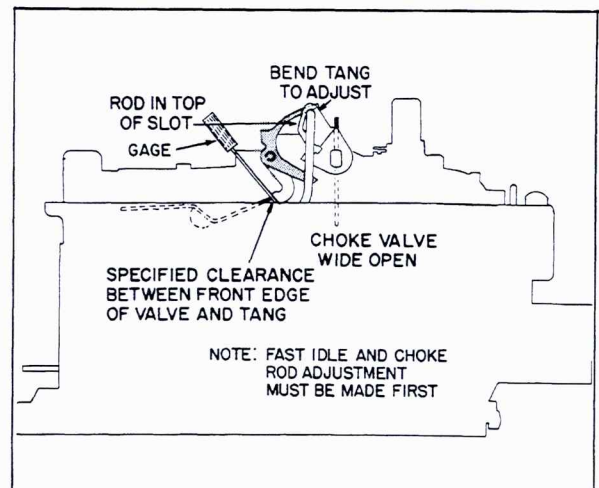

Fig. 6-83 Air Valve Lockout Adjustment
86. Air Valve Lockout Adjustment (Fig. 6-83)
4. Bend upper end of air valve lockout lever tang, Fig. 6-83, if necessary, to give an opening of .015 inch between lockout tank and front edge of air valve.